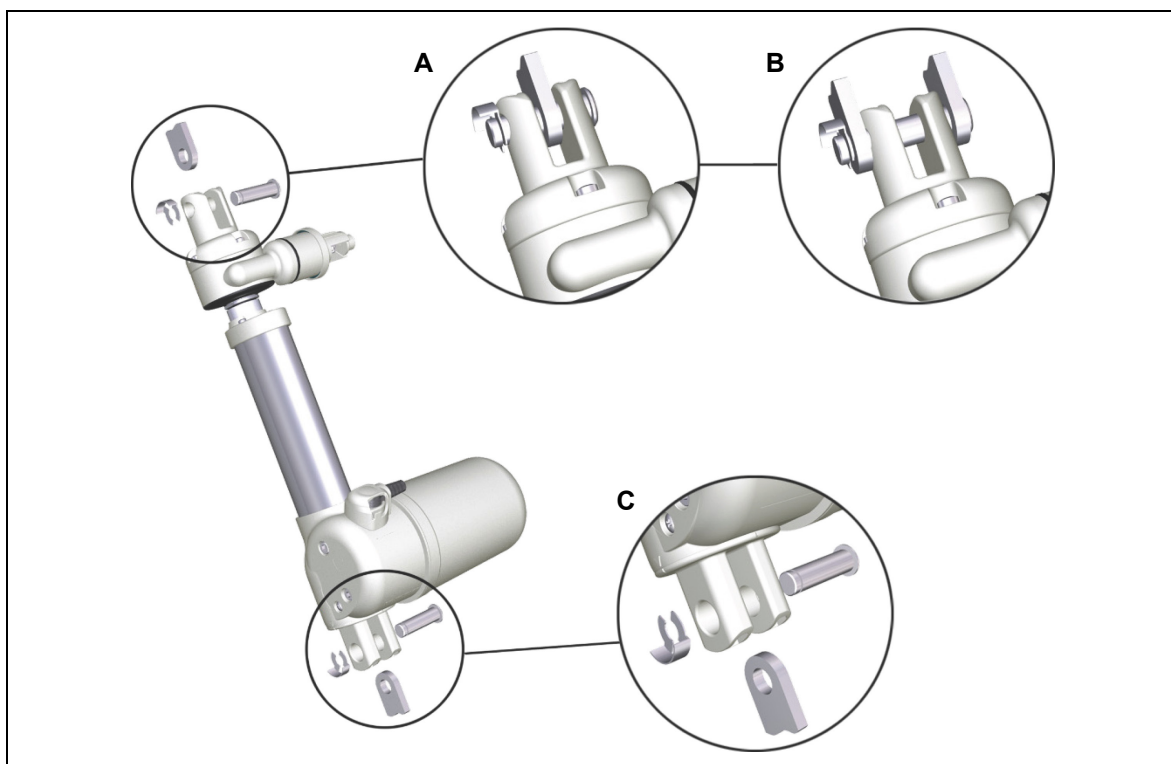

Figure 23 Recommended design of bracket
The brackets should be aligned precisely with each other. We recommend that only one mounting bracket is used on both sides of the drive (as shown by **A** in Figure 23). When two mounting brackets are used, there is a greater risk that they are not properly aligned, resulting in a tilted drive unit.
The drive must be firmly attached, but there should also be a certain degree of movability at the mounting points. The drive must be mounted so that it is protected in all positions against twisting and bending. You can also use brackets with two mounting holes (as shown by **B** in Figure 23), but these must be exactly aligned so that the release force is not increased.
- We recommend: an oval slot (as shown by **C** in Figure 23) should have at least 2 millimetres of extra room.